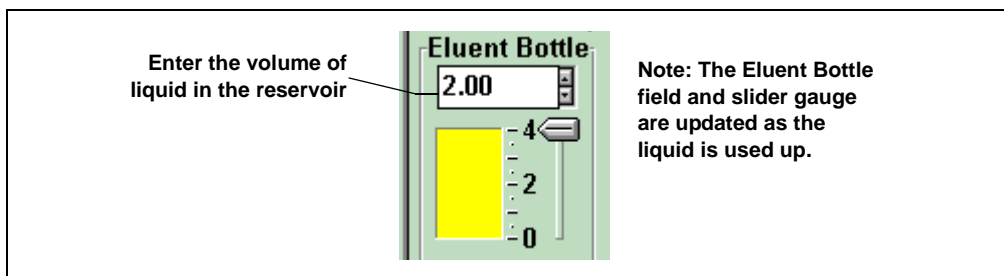

Figure 3-8. Chromeleon Control Panel: Setting the Eluent Level
- In the **Eluent Bottle** field on the Chromeleon Control panel (see Figure 3-8)